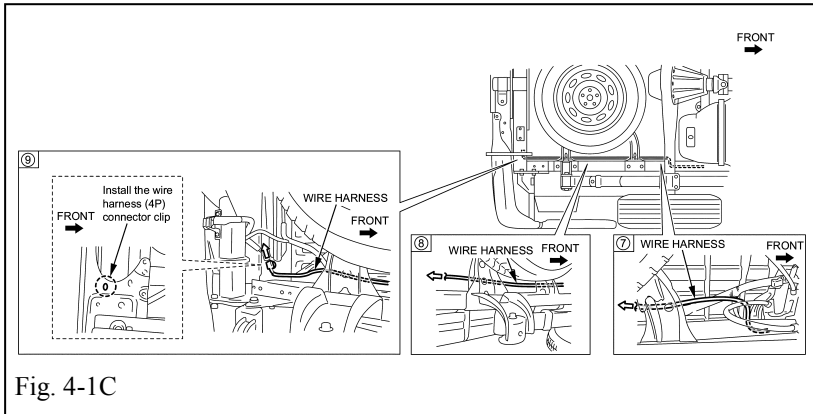

Fig. 4-1C
- (2) Install the wire harness 4-pin connector clip to the position shown in the figure. (Fig. 4-1C)